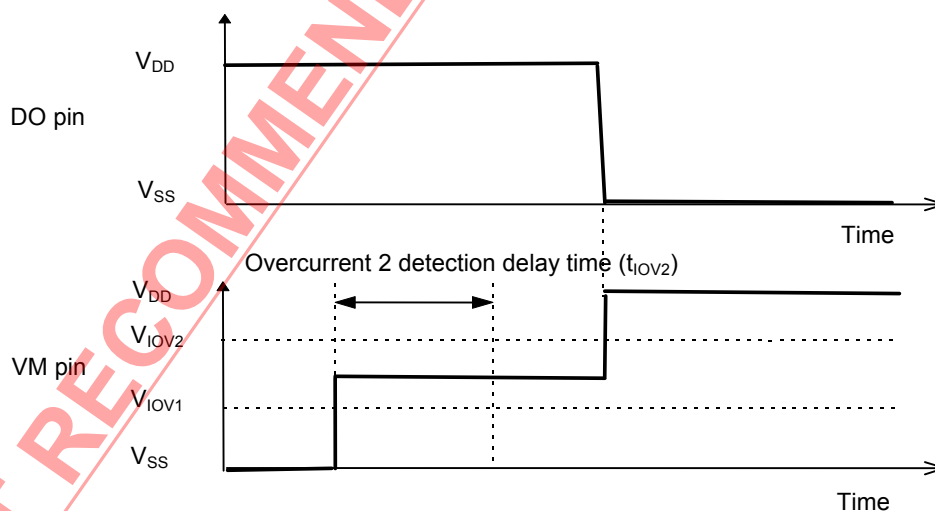

Figure 6
**Caution 1.** Counting for the overcurrent 2 detection delay time starts when the overcurrent 1 is detected. Having detected the overcurrent 1, if the overcurrent 2 is detected after the overcurrent 2 detection delay time, the S-8241 Series turns the discharging control FET off as shown in the Figure 6. In this case, the overcurrent 2 detection delay time may seem to be longer or overcurrent 1 detection delay time may seem to be shorter than expected.